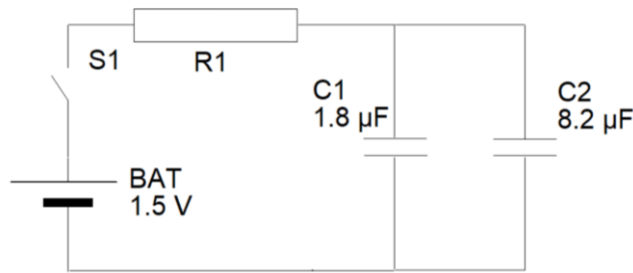

Figure 7: Circuit 6
c) Find the value of resistor R1 in the circuit shown in Figure 7 to obtain a time constant of 0.01 s. Show all your working.